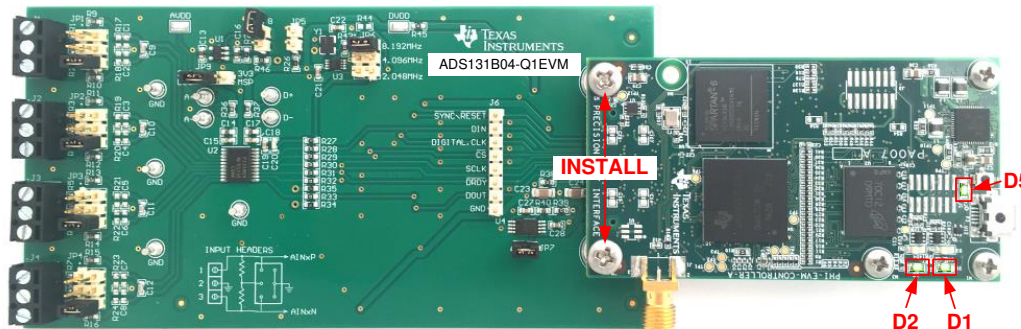

Figure 10. ADS131B04-Q1EVM Hardware Setup and LED Indicators
1. Connect the ADS131B04-Q1EVM to the PHI. Install the two screws as indicated in Figure 10.
- LEDs D1 and D2 on the PHI start blinking to indicate that the PHI is booted up and communicating with the PC. Figure 10 shows the resulting LED indicators